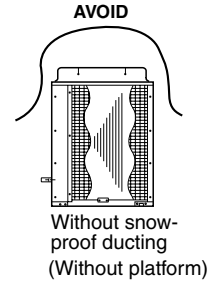

Fig. 2-8
- a) The platform should be higher than the maximum snow depth. (Fig. 2-8)